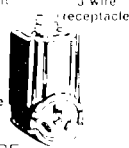

Figure 1 (10-30R)
3. Local codes may permit the use of a flexible type 30 ampere UL listed power supply cord (pigtail) with no smaller than No. 10 copper wire to match three-wire receptacle of NEMA-Type 10-30R shown in the Figure 1. A UL listed strain relief must be provided at the point the power supply cord enters the appliance.